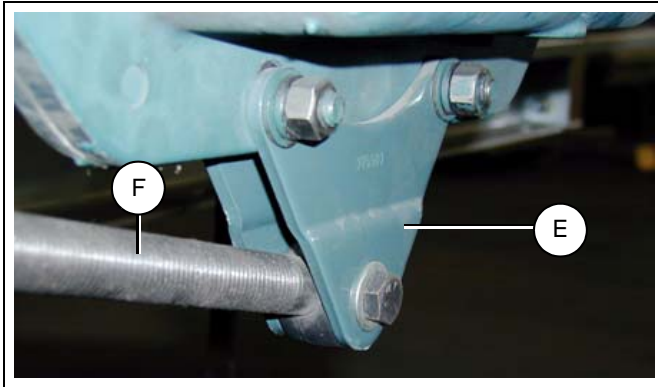
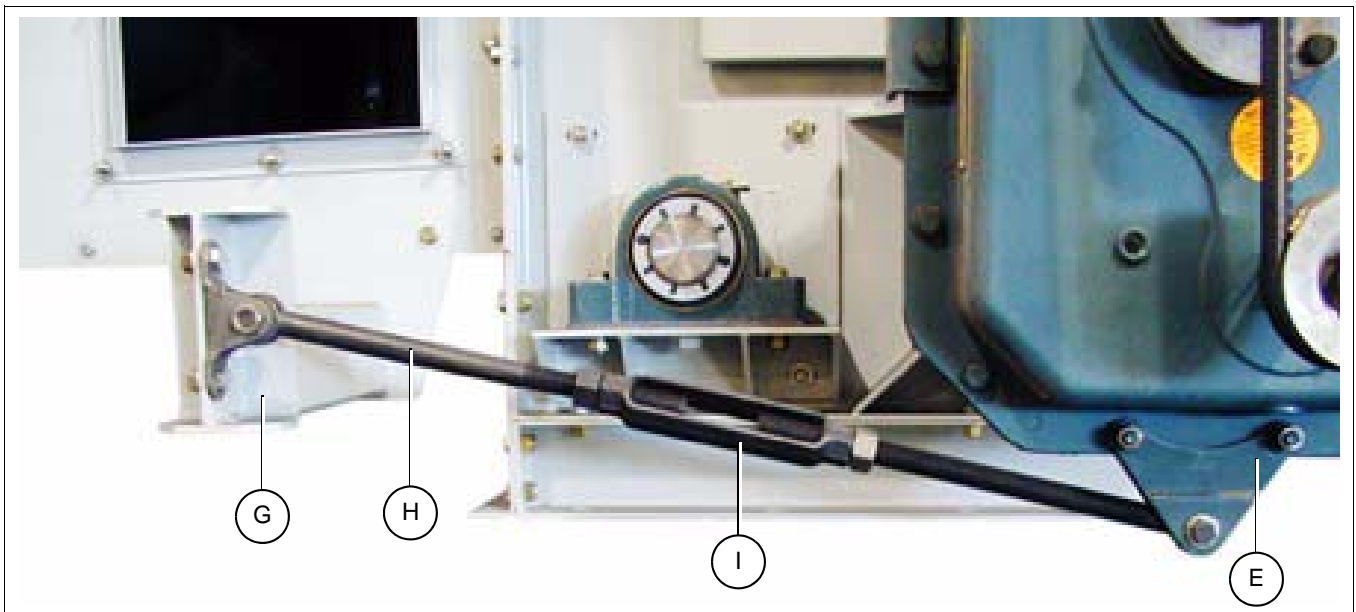
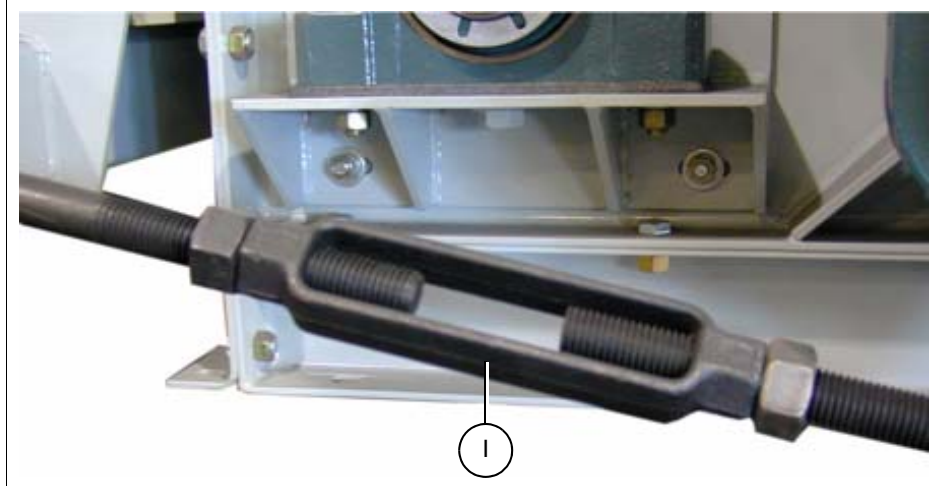

Figure 4M
Figure 4O
Figure 4P
Install the torque arm turnbuckle between the two (2) plates that are located on the bottom of the reducer drive. (See Figure 4O on Page 29.) Secure using bolt with washer and lock nuts. (See Figure 4M on Page 29.) Attach the other end to the torque arm bracket on the conveyor using two (2) bolts, washers and lock nuts. Tighten the torque arm by turning the turnbuckle. (See Figure 4P on Page 30.) Adjust the position of the reducer.
The torque arm bracket is mounted under the first intermediate section. Locate bracket by matching an existing set of holes in the intermediate side that allows the turnbuckle assembly to be as short as possible with the reducer in a vertical position. (See Figure 4O on Page 29.)